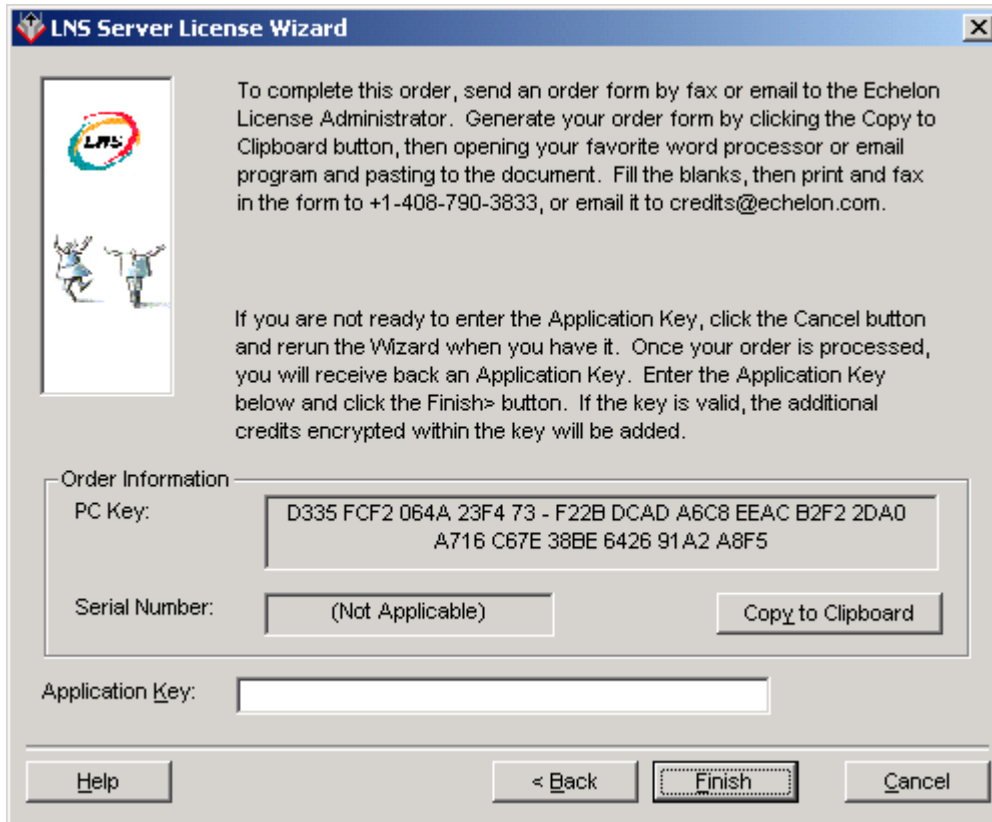

Figure 13.2 Order Processing Window.
2. This window contains the current license status of the PC running the utility, and the number of LNS Device Credits available on the PC. Enter the number of LNS Device Credits you want to add in the **Enter credits to add** text-box, and click the **Next** button. This opens the order processing window shown in figure 13.2.